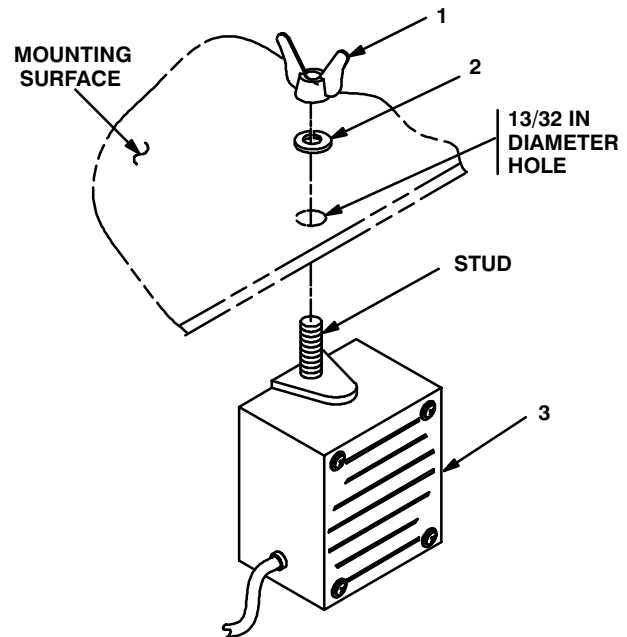

Figure 5-7 (1). Speaker Installation: LS-454/U
LS-671/VRC Speaker. See figure 5-7 (2).
- a. Determine speaker (4) location.
- c. Place speaker (4) against underside of mounting surface; then align with drilled hole.
- d. Using a 1/2 in socket or 1/2 in open/box wrench, install and secure speaker (4) to mounting surface with machine bolt (1), lock washer (2) and flat washer (3).
- e. Install and secure handset (5) to speaker (4) connector J2.